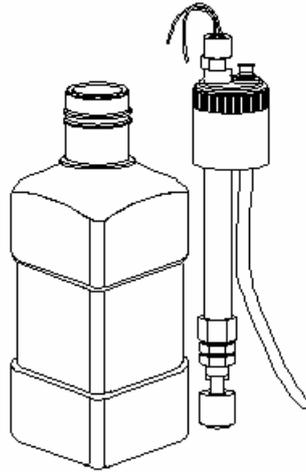

Figure 4-7
3. Take out the lyse pickup tube with an orange connector (see Figure4-7) from the accessory box. Take out the lyse container, in which there should be enough lyse. Remove the container cap and insert the double-pronged end of the tube into the container and turn (clockwise) the tube's cap onto the lyse container until properly secured;